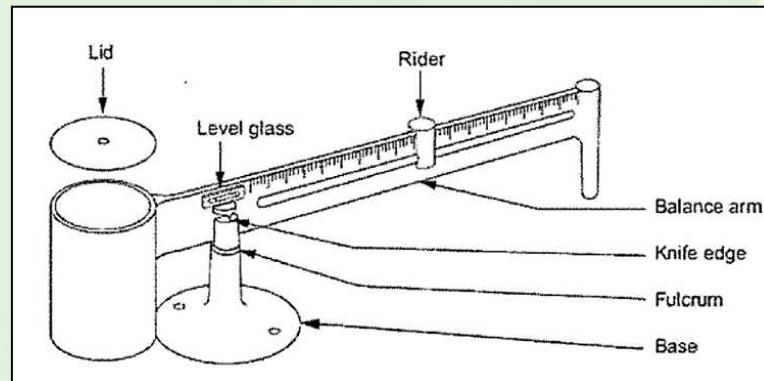

Figure 2: Apparatus for Mud Balance
- i) Mud Balance with sufficient accuracy to permit measurement within $\pm 0.01 \text{ g/cm}^3$; refer to Figure 2: Apparatus for Mud Balance